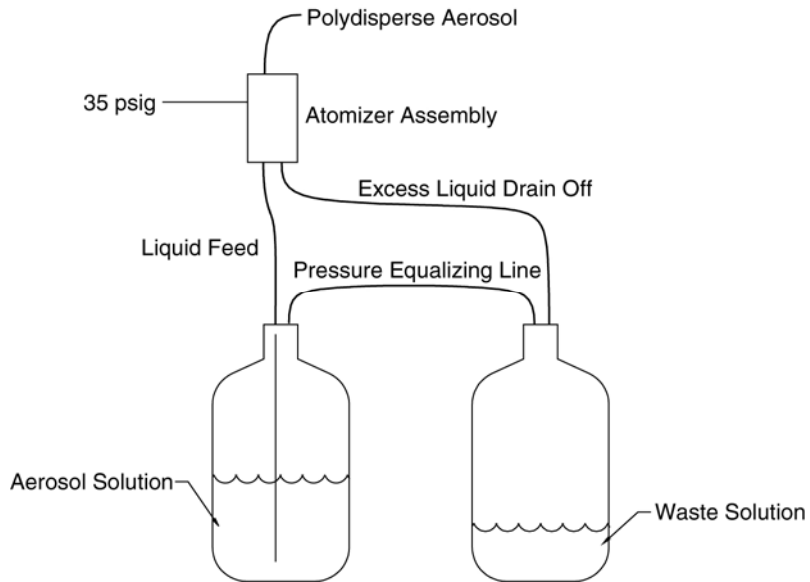

**Figure 3-2**
5. Remove the cap and ferrules from the top opening of the Swagelok tee at the top of the Atomizer assembly block and put in the ½-inch Swagelok port connector (part no. 1602153) as shown in Figure 3-2 to connect to the conductive tubing for polydisperse aerosol coming out from the Atomizer.
6. Remove the cap and ferrules from the top opening of the Swagelok tee at the top of the Atomizer assembly block and put in the ½-inch Swagelok port connector (part no. 1602153) as shown in Figure 3-2 to connect to the conductive tubing for polydisperse aerosol coming out from the Atomizer.